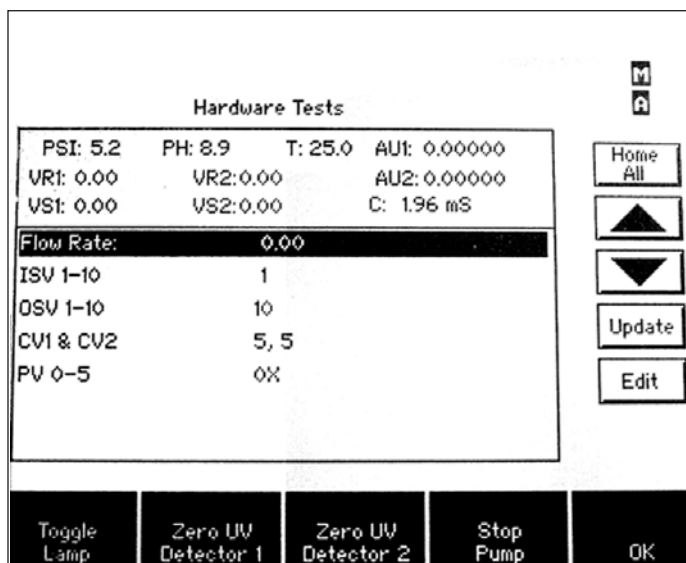

Fig. 9.6. Manual Operation of Hardware screen.
Manual control toolbar — buttons (5) at the bottom of the Manual Operations screen (Figure 9.6) that control: